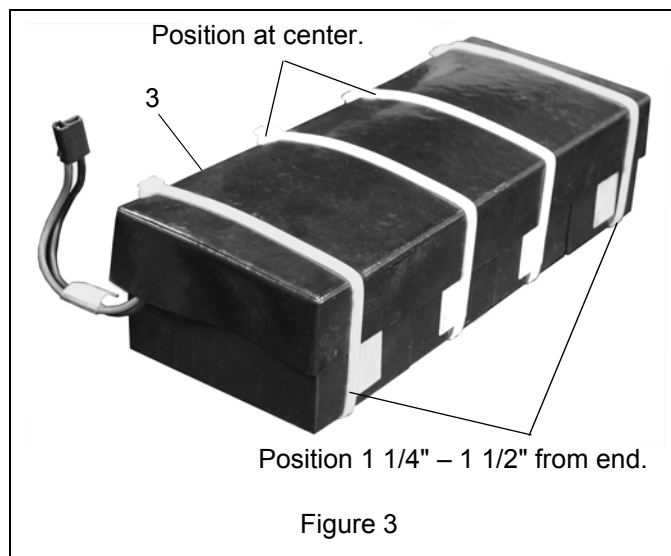

Figure 3
4. Place cover (item 3) over batteries. See Figure 3.